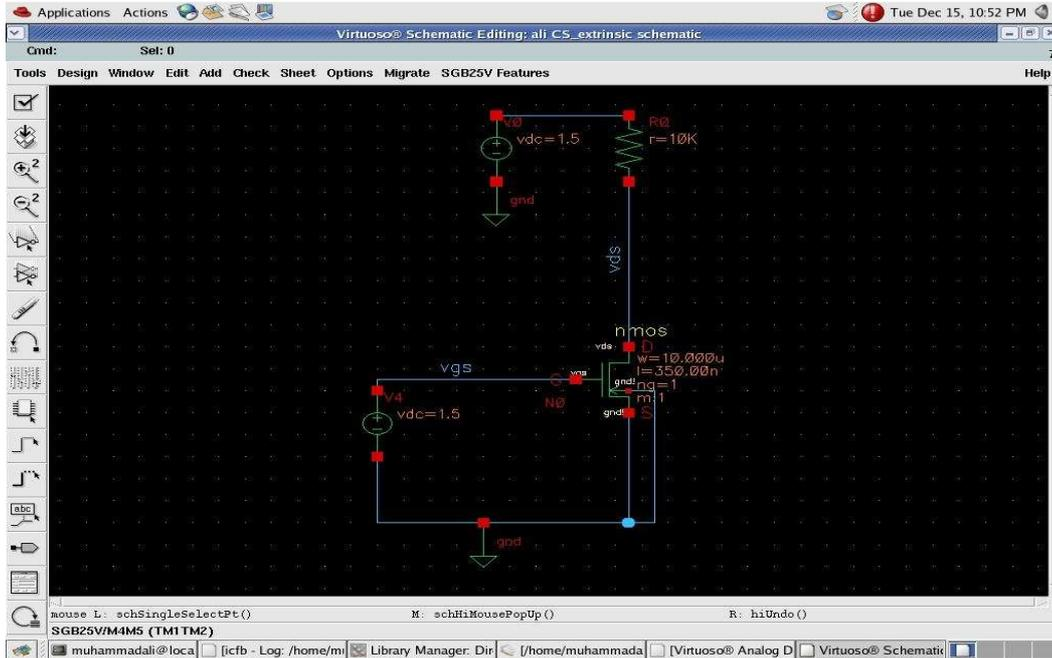

Fig.7: The circuit
Supposedly, you have designed the same schematic that I have shown you in Fig. 7. Now you want to get it simulated so that you can observe the 'time domain' analysis and can also perform the 'ac' and 'dc' simulations. This can be done in the following way by using the *Analog Design Environment (ADE)*.
- With the help of Tools in the ADE, you can determine many important things. E.g. once the transient simulation is done, click on the 'Results' in the ADE, and click on 'Print → Transient Operating Points'. This will print the operating points in terms of voltages, currents and power on the Virtuoso schematic Editor as is shown in fig.7.